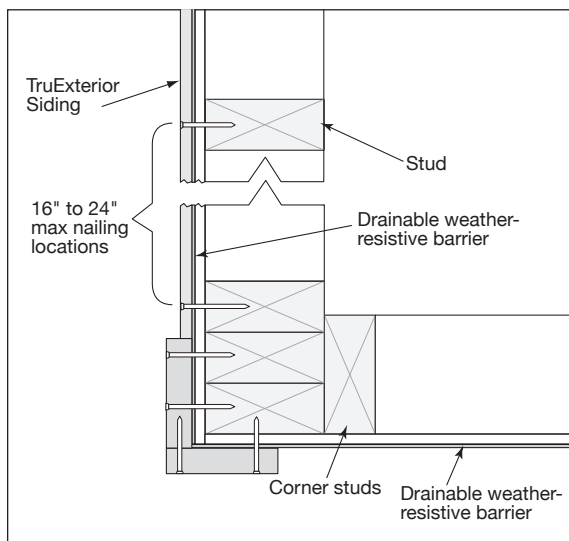

Fig. 10a
- Ensure that the nails penetrate the framing; the nails of the longer trim piece should also penetrate the shorter trim piece **(Fig. 10a)**